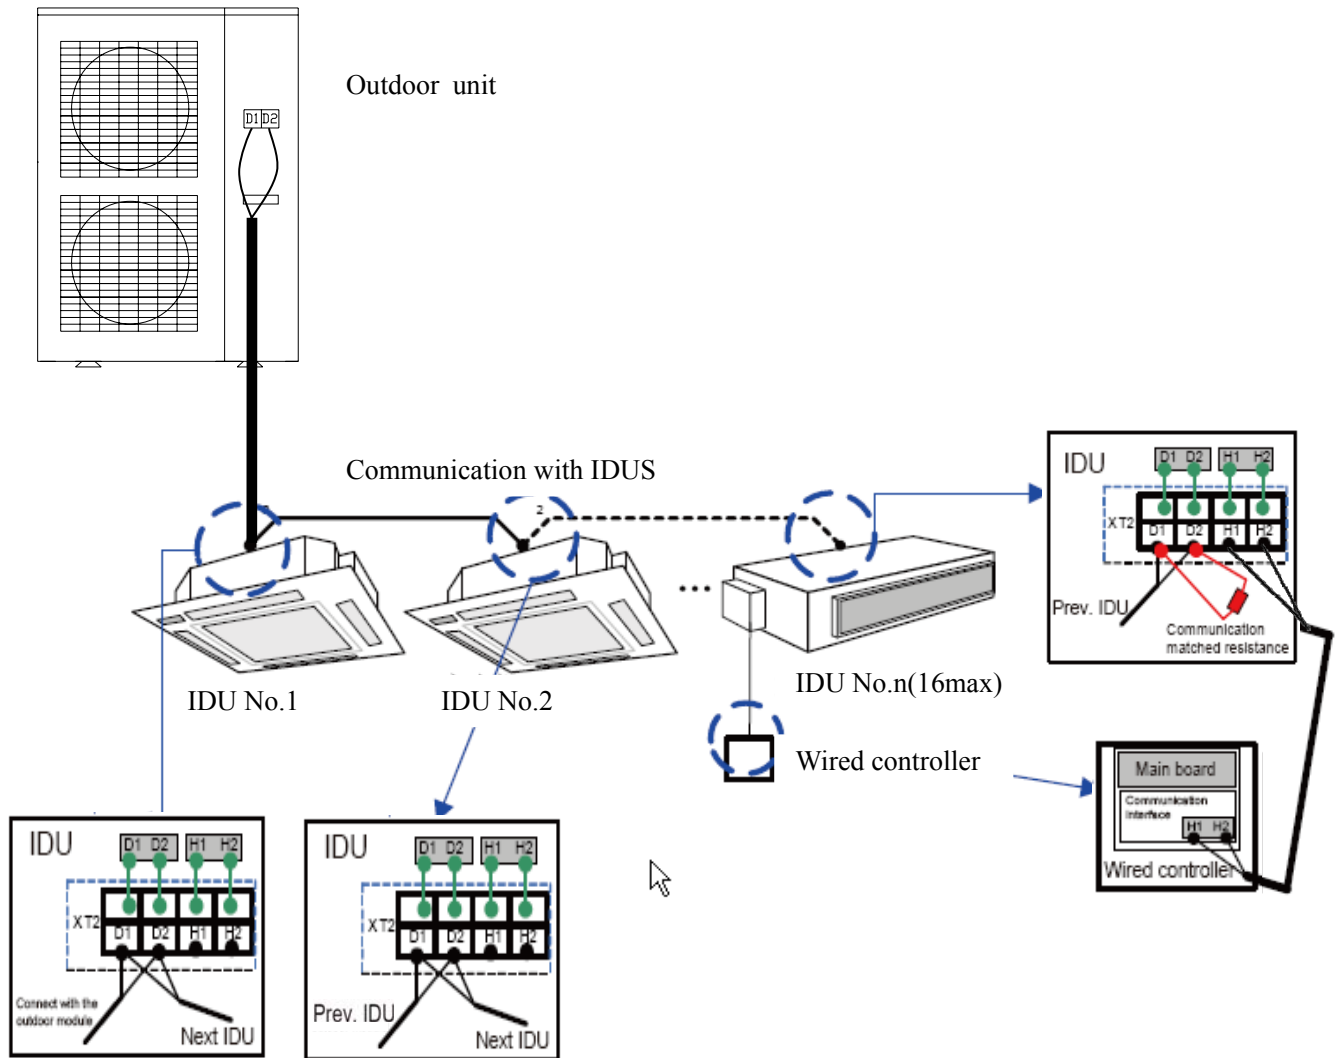

Fig.18 Communication wiring
- (1) Open the wiring lid of indoor and outdoor units respectively. The communication wires come through the appointed orifice to the wiring box. Please contact indoor unit with outdoor unit according to the units circuit diagrams. And the power cord model is determined by the capacity of power supply and the place for installing the units.
- (2) Connect the communication wires according to Fig.18.
- (3) When installing the units, please divide communication wires from power cord and make sure the least distance between communication wires and power cord should be more than 20cm, otherwise the units communication cannot work normally.
- (4) Connection between indoor unit and outdoor unit board: electric wires come through rubber loop, and communication wires are connected on the port signed with “D1, D2”. Communication wiring among indoor units uses tandem way, and two sides of communication wire should be around with magnetic loop.
- (5) After making sure communication wiring is right, please press all the electric wires with line pressing card respectively, and install the wiring lid.